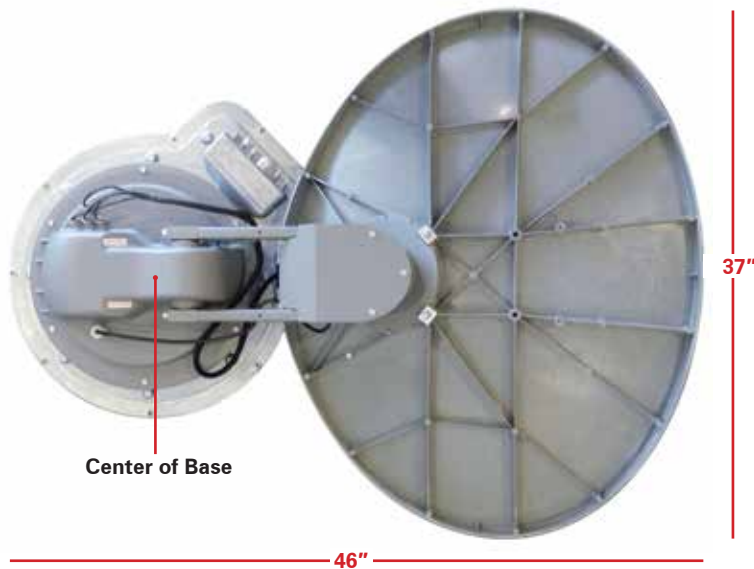

FIGURE 4. Required roof space for antenna
- c. Has a minimum roof space of 46" x 37" for antenna (see fig. 4)